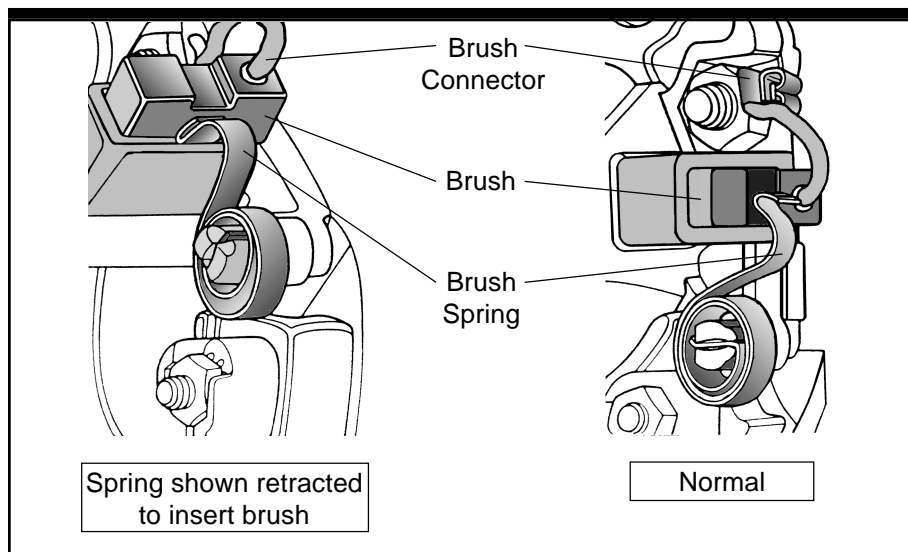

Figure 4-2. DC Motor Brushes (Gasketed Cover Removed)
Step 4—Replace Brushes. Lift the brush spring from the end of the brush (see Figure 4-2). Remove the brush connector, withdraw the brush and inspect the length. To prevent motor damage, brushes should be replaced when or before they reach the half way point. Reverse procedure to replace brush. Replace motor access and feeder covers. Connect power and air. Initial and date the Maintenance Log.